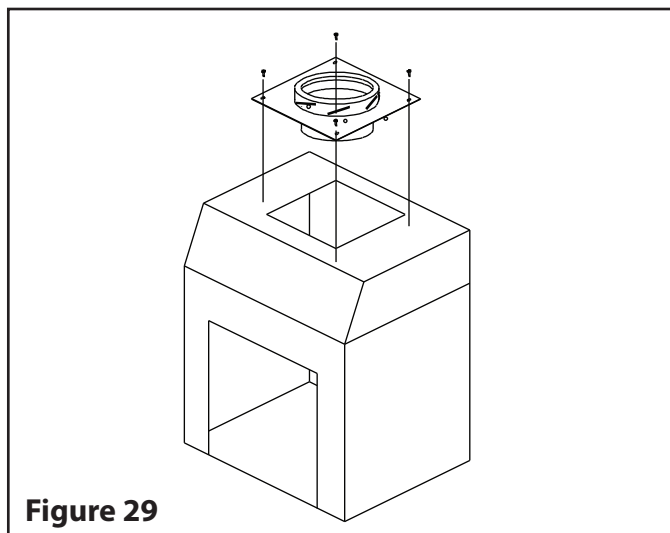

Figure 29
Once the appliance is installed, bolt the Anchor Plate (SP) to it (see Figure 29).